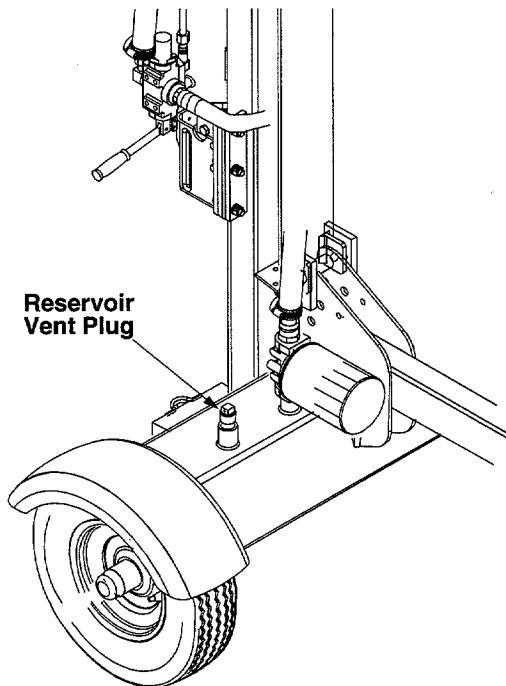

Figure 6
2. Remove reservoir vent plug. See Figure 6.